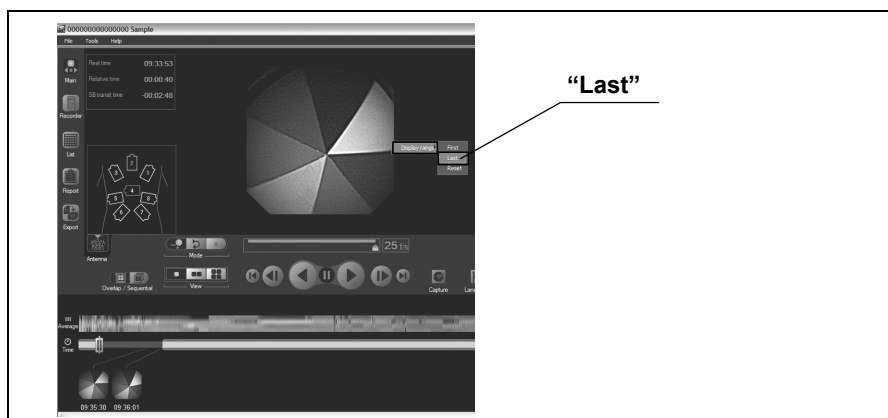

Figure 6.104
5. Right-click on the image and select “Last” from “Display range” in the context menu (see Figure 6.104).